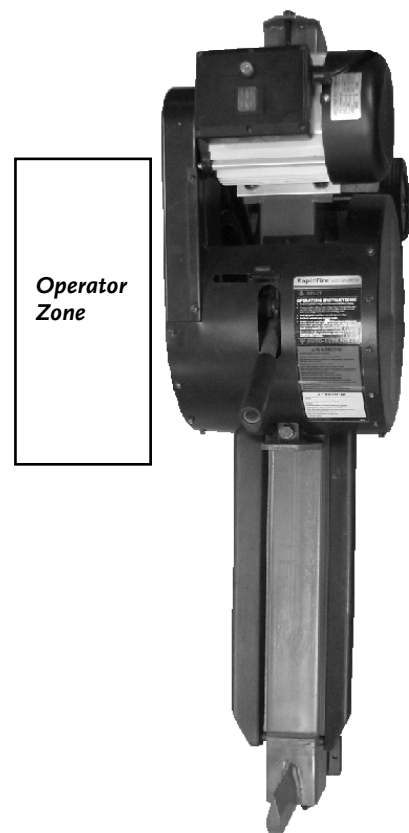

Figure 4
- When operating the Log Splitter, make sure you are standing in the safe operating area (OPERATOR ZONE) as shown in **Figure 4**. You must stay in the safe operating area at all times when the ram is in motion (whether extending or retracting). Never place any part of your body into a position that causes an unsafe operating condition.